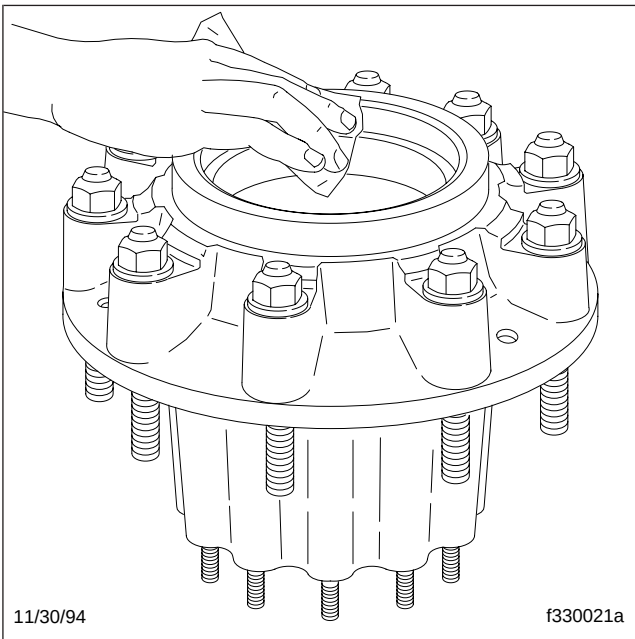

Fig. 3, Cleaning the Hub
3. Clean the spindle, spindle threads, seal bore, and hub cavity. See Fig. 2 and Fig. 3.